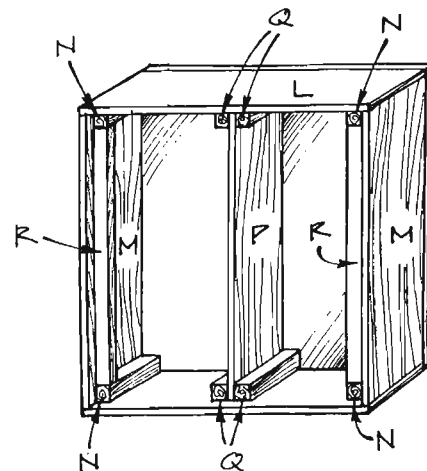

Figure 11
12. Position the center divider (P) in the exact horizontal center of the drawer housing, flush against the housing back (O), as shown in *Figure 11*. Note that there is a 2-3/4-inch allowance at the front of the drawer housing. Glue and screw the four center divider supports to the housing bottom (L) and housing top (L). Using 2-inch-long screws, screw through the housing back (O) into the ends of the four center divider supports (Q) and into the center divider (P).
13. Cut two side supports (R) from 2 x 2 pine, each 34-1/2 inches long.
14. Glue and screw the two side supports (R) to the housing sides (M), between and flush with the